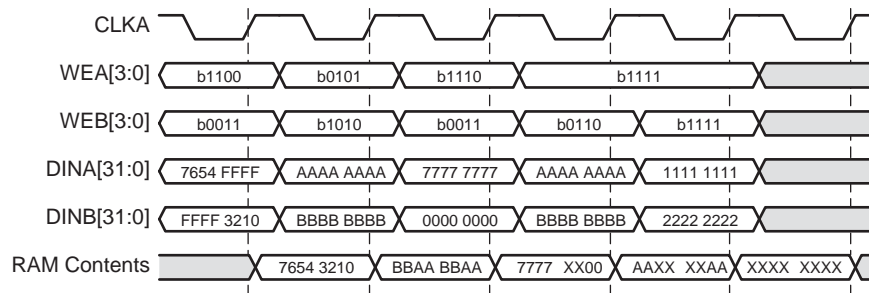

Figure 32: Write-Write Collision Example
- **Using Byte-Writes.** When using byte-writes, memory contents are not corrupted when separate bytes are written in the same data word. RAM contents are corrupted only when both ports attempt to Write the same byte. Figure 32 illustrates this case. Assume $ADDRA = ADDR_B = 0$.